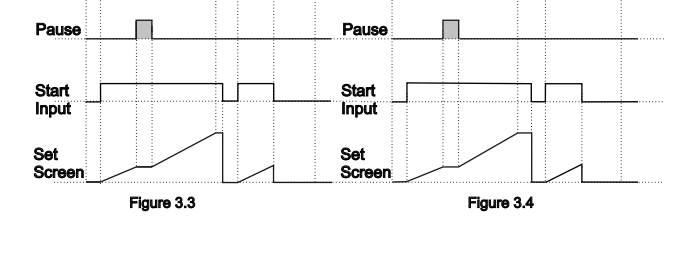

Figure 3.1, Figure 3.2, Figure 3.3, Figure 3.4
3.1.1 If Downcount **dEc**=1 and **outf** is **on** the control diagram is shown in Figure 3.1